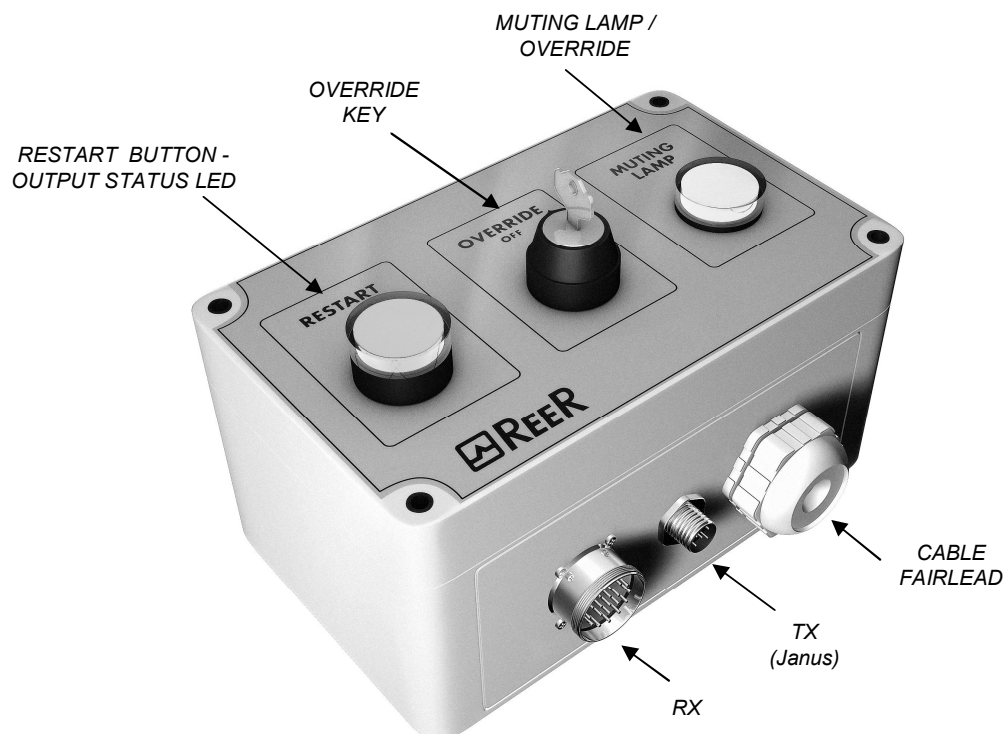

Figure 1 - MJB1/MJB3
- The light curtain must be connected to the respective connectors M23 and M12 (Fig. 1 and 2) using the cables.